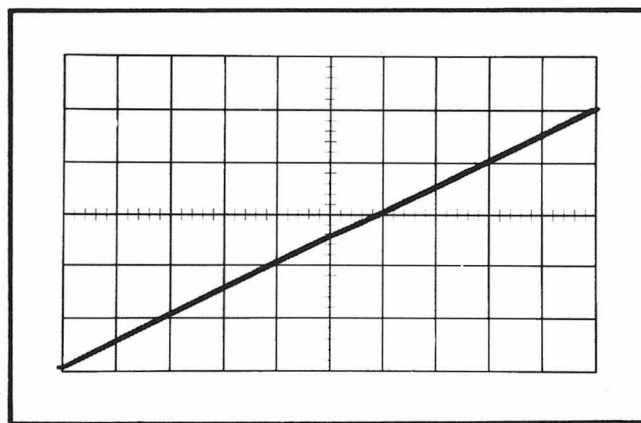

Fig. 5-2. Test oscilloscope display showing 10-millisecond, one-volt sawtooth.
- c. Adjust the A Time/cm Variable control and test fixture amplitude control for a ramp 10 centimeters long and 5 centimeters high. See Fig. 5-2. This represents a 10 millisecond sawtooth, one volt in amplitude, which will be used to sweep the Type 601.